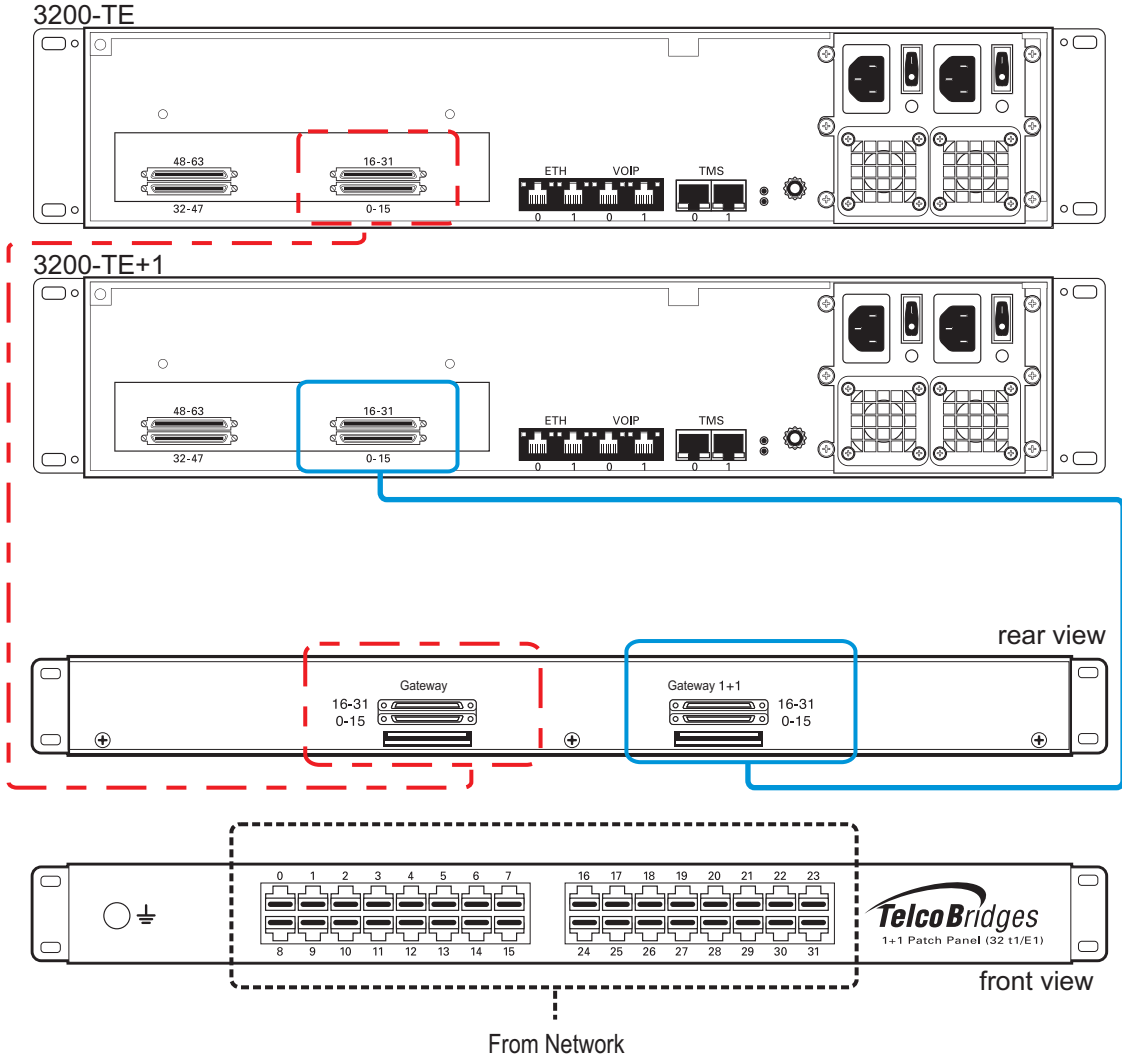

Figure 2.14 3200-TE and 3200-TE+1 connecting to the TDM 1+1 32/T1/E1 1+1 patch panel
1. Connect each T1/E1 line from the network section of the 1+1 patch panel to the remote equipment. See figure 2.14 on page 37.